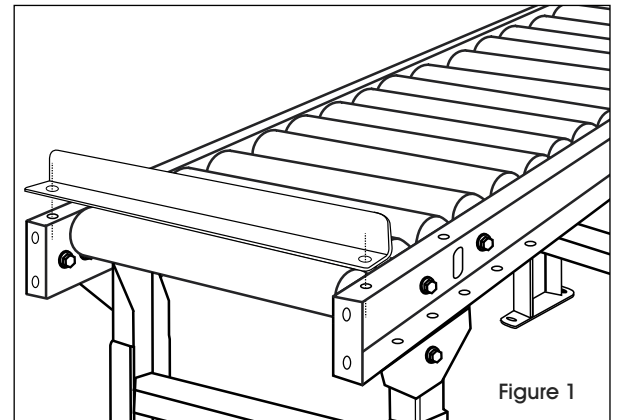

Figure 1
2. Line up holes on end stop with holes on end of conveyor. (See Figure 1)